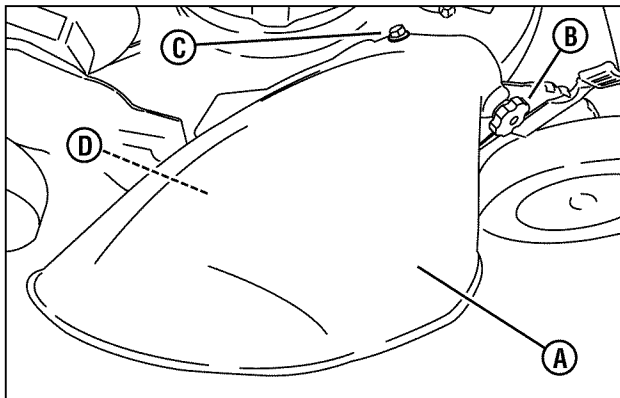

Figure 11: Installing the discharge deflector
2. Install the deflector (**A, Figure 11**) to the deck in place of the recycling cover, making sure that: